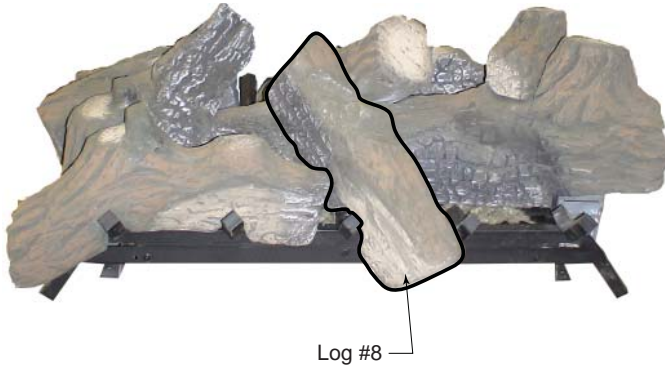

Figure 24 - Place Log #8
- Place log #8 by aligning 'V' notch in bottom of log with the horizontal grate bar between tines as shown in *Figure 24*. Place the rectangular notch on bottom of log onto rectangular protrusion on middle of log #1. *Figure 24*